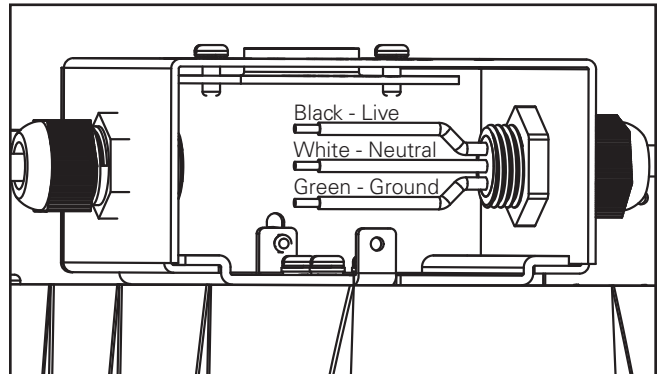

Figure 11.
- Wire according to NEC code. (Figure 11)